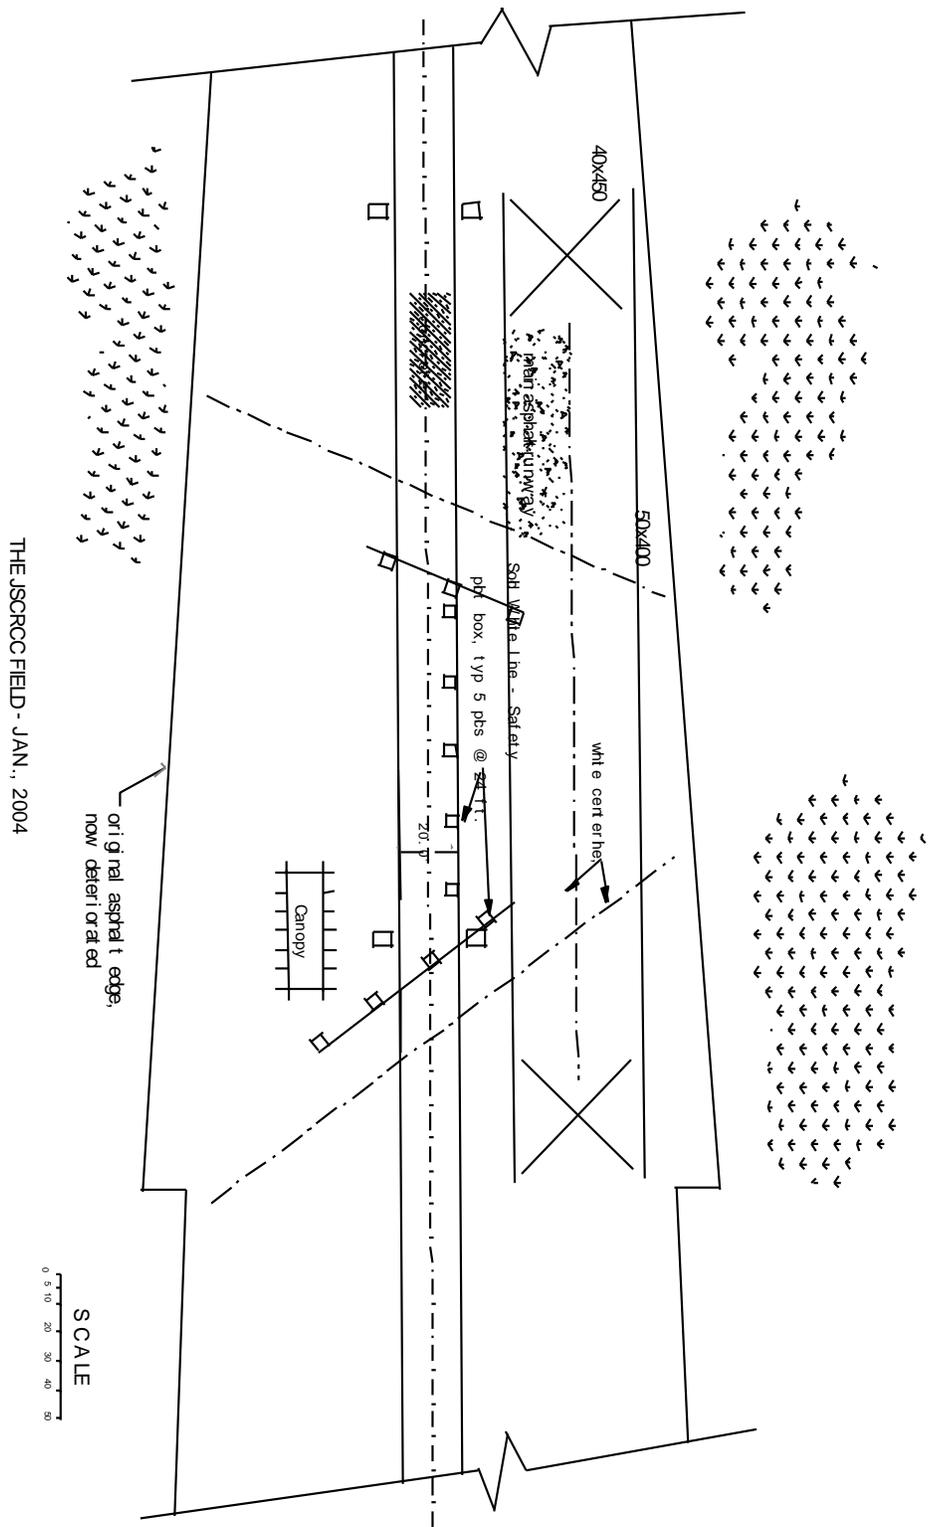

Figure 2. Field Layout
- a) Three major Directional Flight Lines (DFL) are provided to accommodate the wind direction (See Figure 2).
- a) The "PIT" area is where all pilots and equipment are kept, including field boxes, planes, helpers, coolers, chairs, etc. deemed necessary by a pilot (see Figure 2).